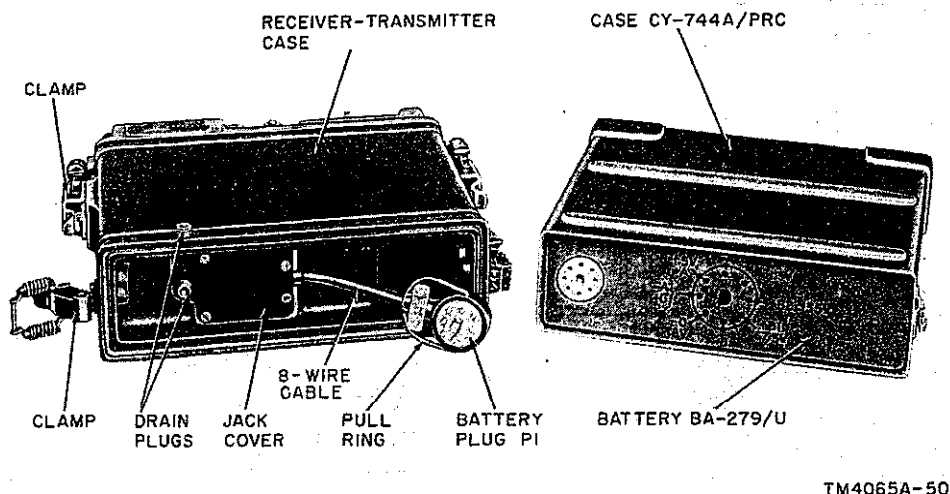

Figure 29. Battery and receiver-transmitter cases, separated.
a. Battery Cable. With an ohmmeter, measure the resistance between each pin of plug P1 on the battery cable (fig. 29) and each of the remaining pins. Also measure the resistance between each pin of plug P1 and the receiver-transmitter case. Any reading below infinity indicates a defective plug or battery cable.